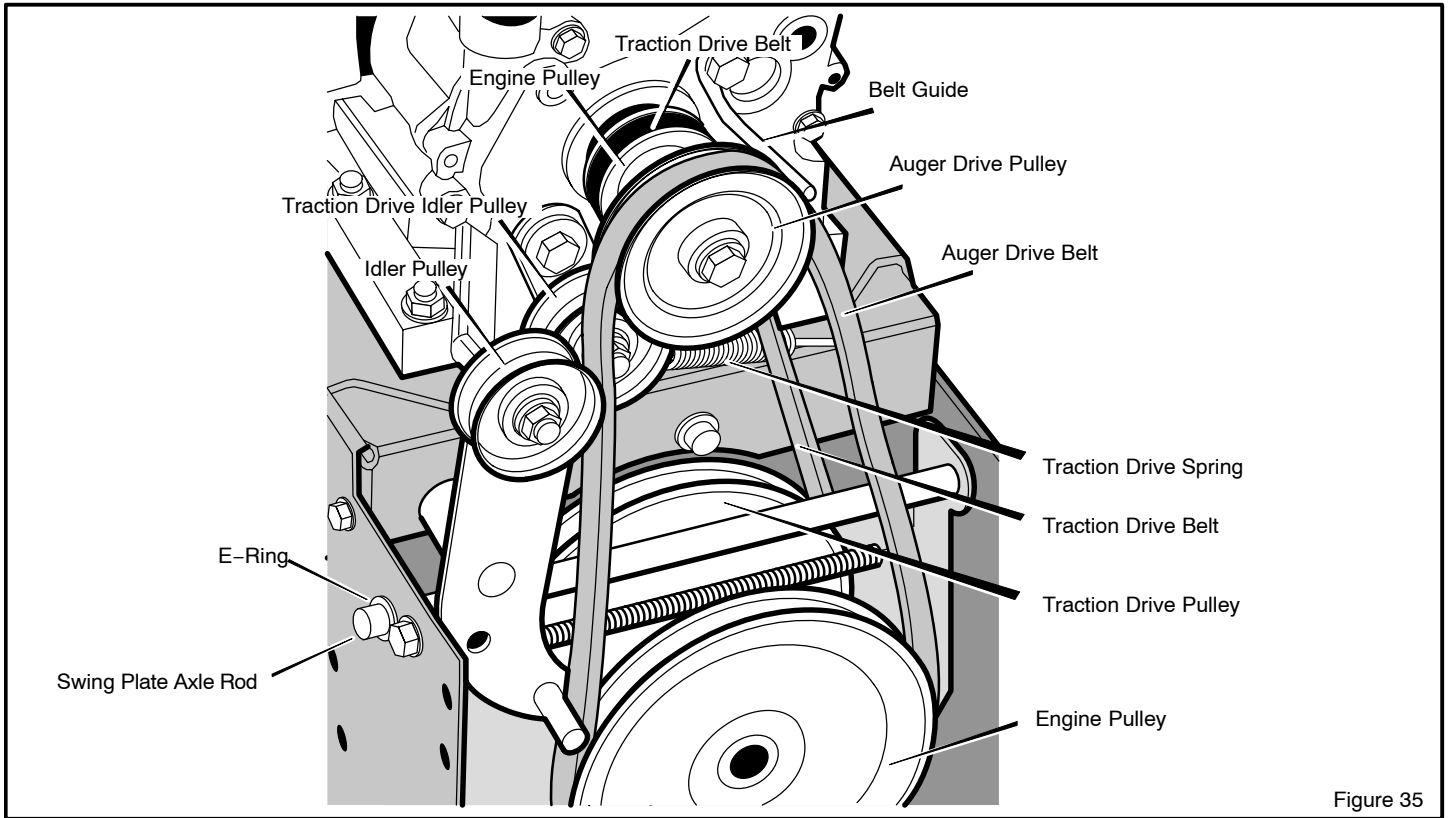

Figure 35
3. Loosen nut on auger idler pulley and move auger idler pulley towards belt about 1/8 inch (3 mm) (see Figure 35).
5. Loosen the **belt guide**. Pull the **belt guide** away from the **auger drive pulley** (see Figure 35).
9. Remove the old **auger drive belt** from the **auger drive pulley**. Replace the **auger drive belt** with an original factory replacement belt available from an authorized service center (see Figure 35).
3. Remove the **e-ring** from one end of the **swing plate axle rod**. Remove the **swing plate axle rod** to allow the swing plate to pivot forward (see Figure 35).